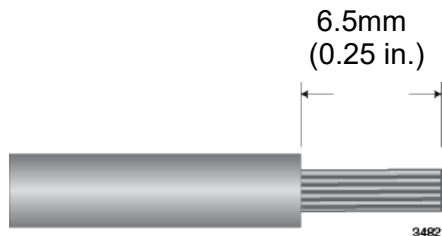

Figure 56. Stripping a Power Cable Wire
1. Strip 6.5mm (0.25 in.) of insulation from the ends of the stranded power wires with a wire insulator stripper. Refer to Figure 56 on page 108.